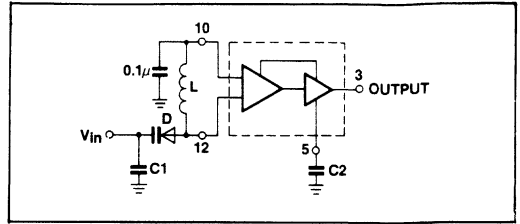

Fig.5 The SP1648 operating in the voltage-controlled mode (DIL pin numbers)
When operating the oscillator in the voltage controlled mode (Fig.5), it should be noted that the cathode of the varactor diode (D) should be biased at least  $2V_{BE}$  above  $V_{EE}$  ( $\approx 1.4V$  for positive supply operation).
Capacitors (C1 and C2 of Fig.5) should be used to bypass the AGC point and the VCO input (varactor diode), guaranteeing only dc levels at these points.